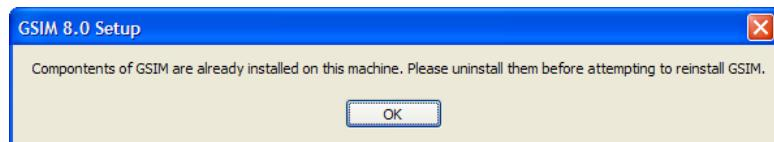

Figure 6.3 Installer “existing GSIM components” dialog box
- i) If the installer detects existing GSIM components on the computer (figure 6.3), click **OK** to close the dialog box, remove the existing GSIM components (use **Control Panel > Add or Remove Programs**), then run GSIM8.x.x.exe again.